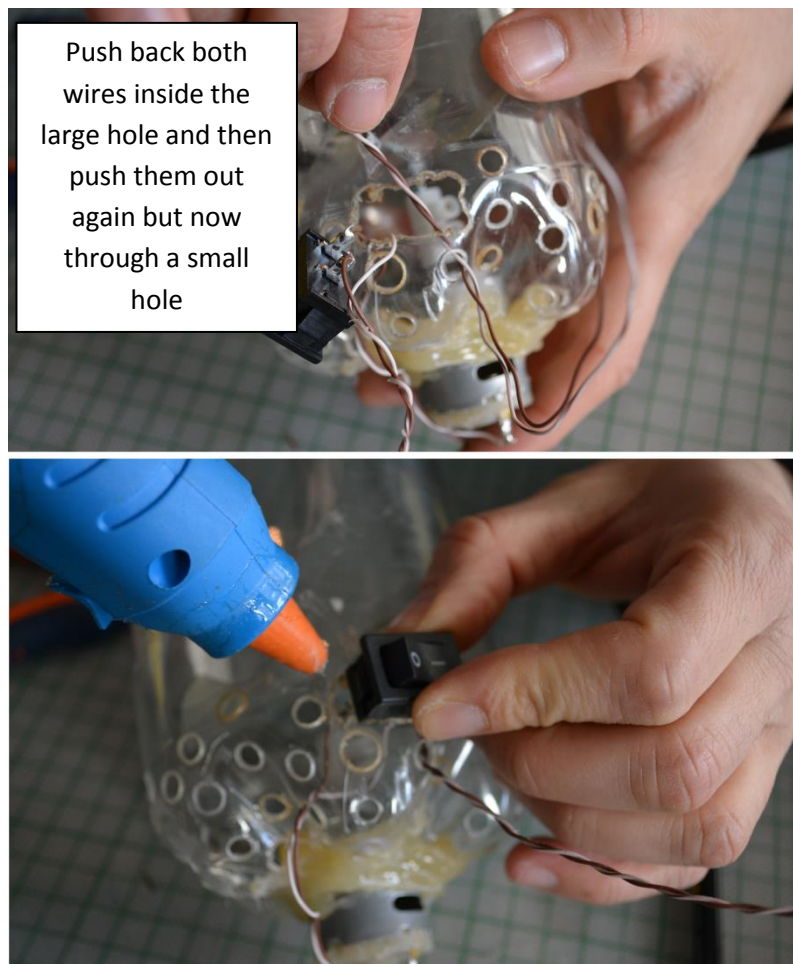

Figure 33
- Once you have finished with the switch, push both wires inside the bottle through the opening that the switch will be placed. Then slide both wires out of the bottle through one of the small holes like shown in Fig. 33. After that, attach the switch to the large hole and glue the switch using the hot glue gun (see Fig. 33).